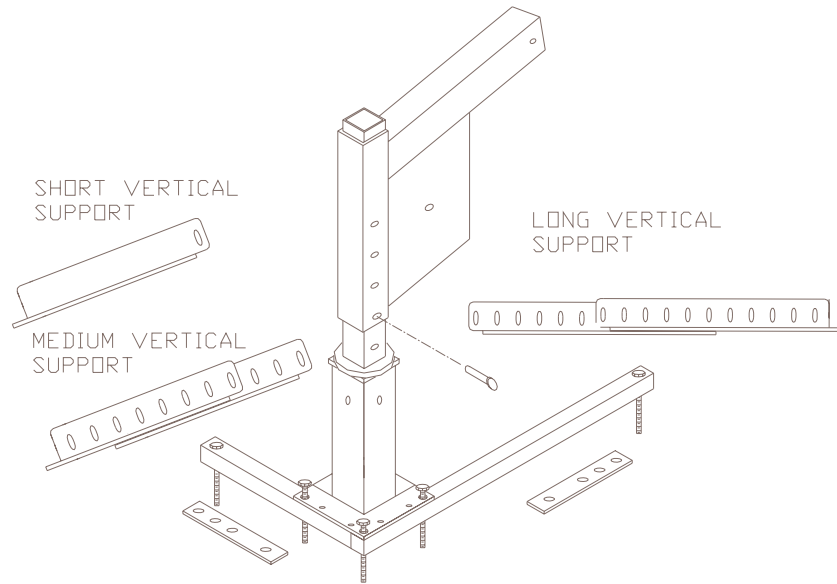

FIGURE 6.
14. Using a 5/16" X 3/4" bolt and nut, attach one end of either vertical support to the top hole in the mounting post, in line with the L-base. See figure 6.
There are two different length supports that are interchangeable in order to adapt to various anchor points. A third (medium) size support has been designed to fit from the base to the short side of the L-base. See figure 6.